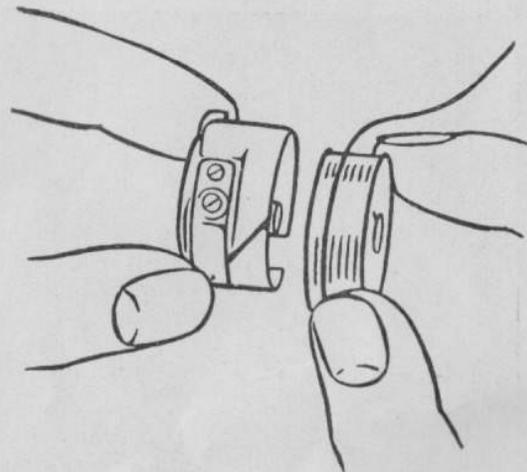

FIG. 5
a. Hold bobbin case in your left hand with slot in edge of shell facing you (fig. 5). Grasp the bobbin with your right hand, so that the thread on top leads from left to right. Drop bobbin into bobbin case.